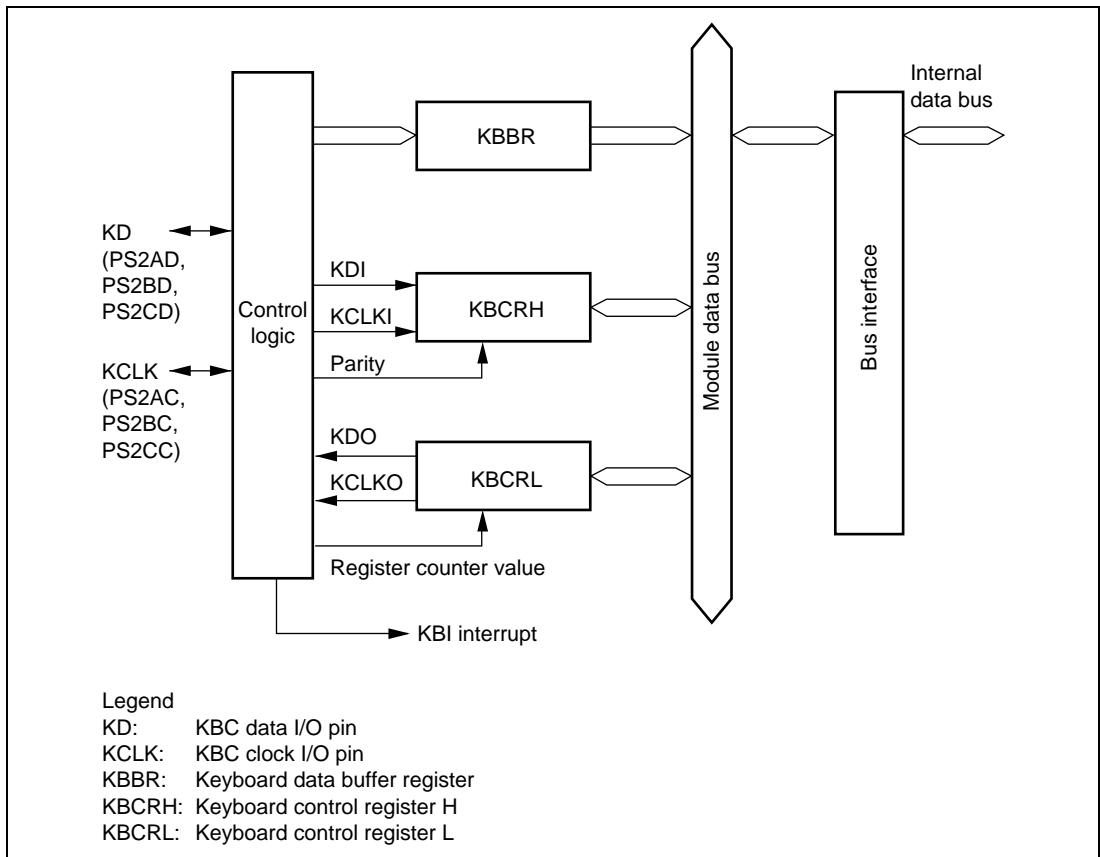

Figure 17.1 Block Diagram of Keyboard Buffer Controller
Data transfer using the keyboard buffer controller employs a data line (KD) and a clock line (KCLK), providing economical use of connectors, board surface area, etc. Figure 17.1 shows a block diagram of the keyboard buffer controller.